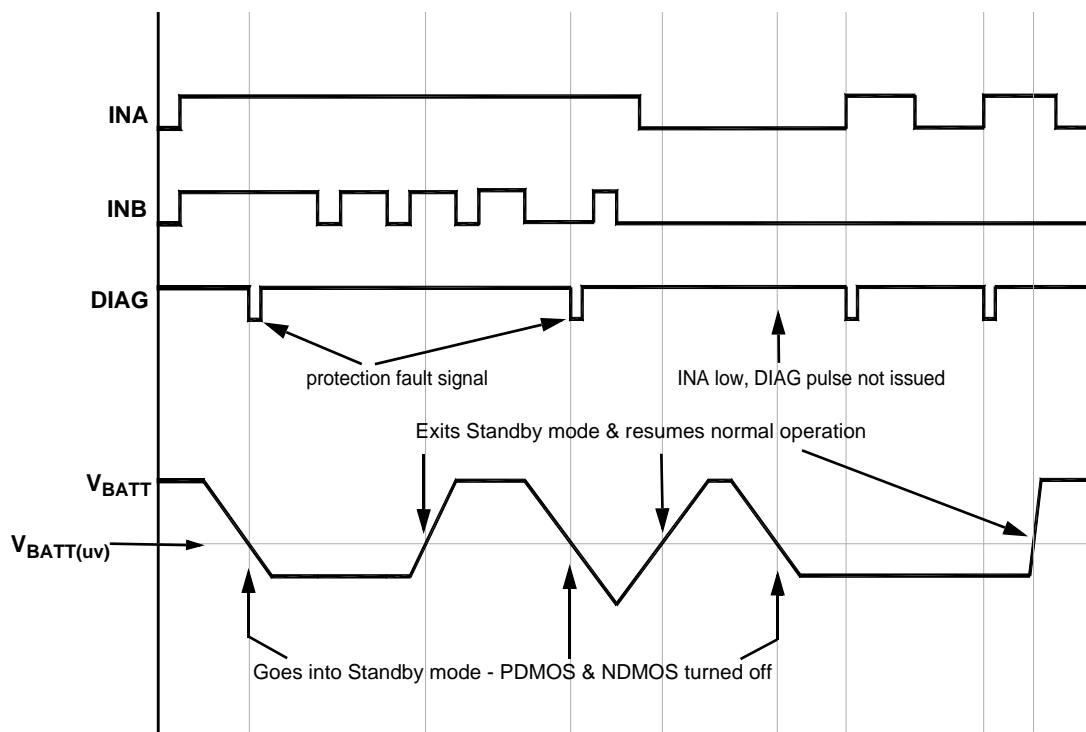

Figure 6. Under-Voltage
**Undervoltage** (see figure 6) The FDMS2380 will operate down to a minimum voltage of  $V_{BATT(uv)}$ . If the battery supply drops below this minimum voltage the device is forced into the Standby mode. If **INA** is high during this condition a  $2 \mu\text{s}$  to  $10 \mu\text{s}$  protection fault pulse is issued on the diagnostic **DIAG** pin. In addition, a diagnostic pulse will be generated each time **INA** transitions from a low to a high logic level while remaining in this under-voltage condition.